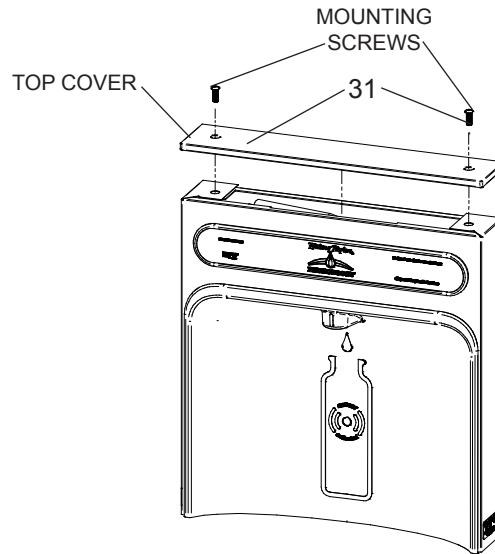
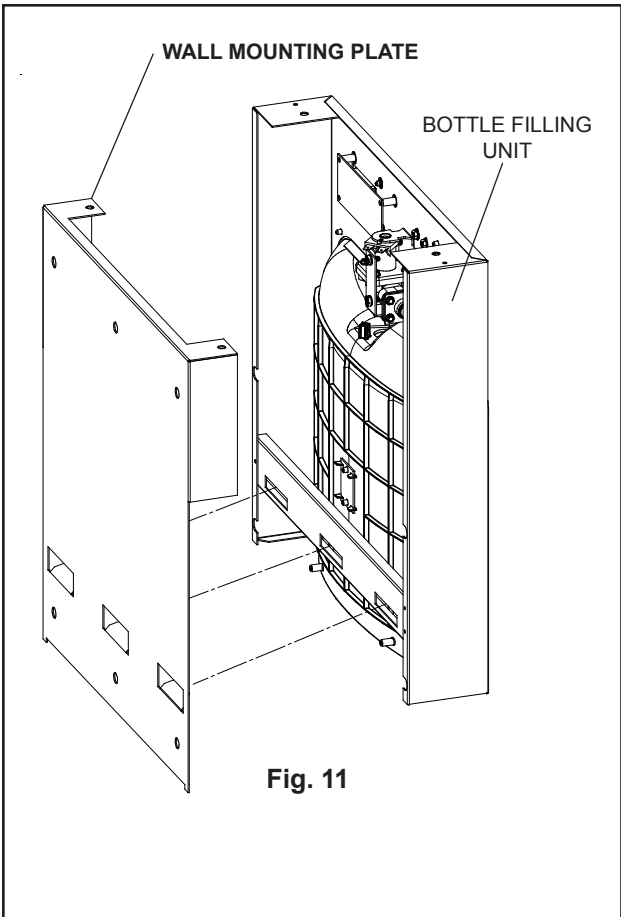

Fig. 8
Fig. 11
- 8) **With the power cord and waterline through hole** on top of water cooler place Bottle Filler on the three (3) angled tabs protruding from the wall mounting plate installed on wall. Make sure round boss in gasket fits in hole of basin. (See Fig. 11).
- 9) **Once Bottle Filler is installed on wall plate tabs,** water line and power cord are installed properly, push top of Bottle Filler toward wall and line up top cover two (2) holes.
- 10) **Reinstall Top Cover on Bottle Filler** (See Fig. 8) with two mounting screws from step 1 above. Caution, do not over tighten screws.